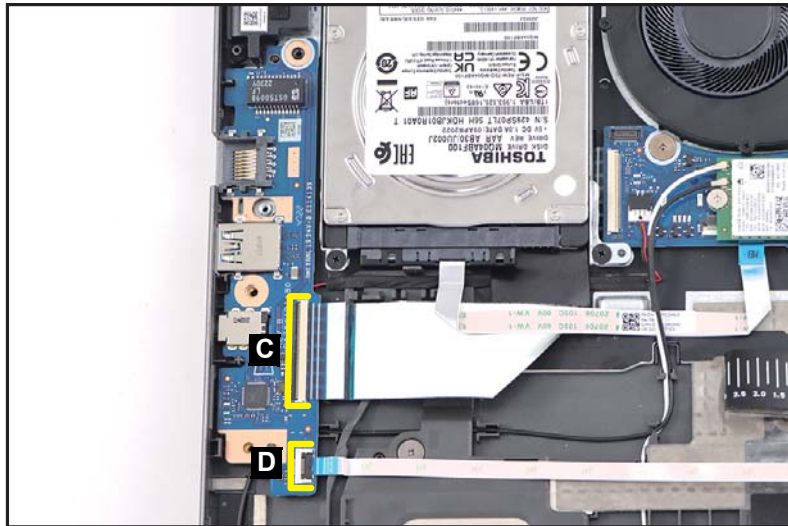

Figure 1-25. USB Board Removal
3. Disconnect the USB board FFC from the USB board connector (C) (Figure 1-25).
4. Disconnect the fingerprint FFC from the USB board connector (D) (Figure 1-25).